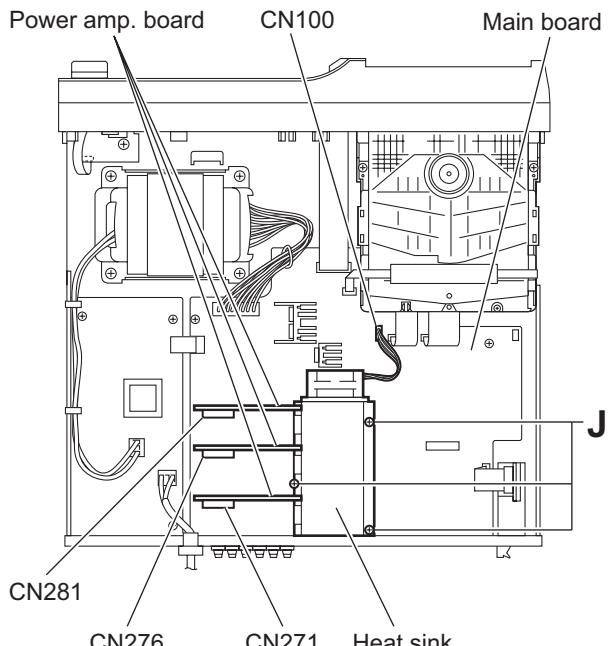

Fig.12
(See Figs.12 and 13)
- (1) From the top side of the main board, remove the three screws **J** attaching the heat sink. (See Fig.12.)
- (3) Disconnect the each power amp.boards connecters from the connectors **CN271**, **CN276**, **CN281** on the main board. (See Fig.12.)
- (4) Take out the heat sink with power amp.boards from the main board. (See Fig.12.)